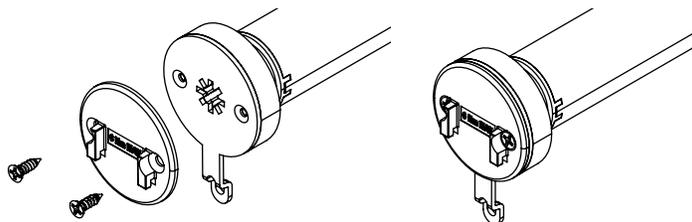

Figure 7. Install the Motor Mount Plate
Step 5. Install the motor mount plate to the tubular motor by using the screws provided and a Phillips screw driver, as shown in **Figure 7**.